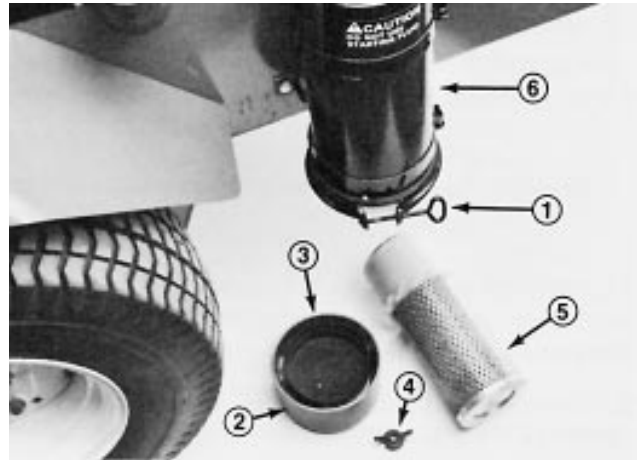

Figure 27
1. Loosen thumb screw until dust cup and baffle can be removed (Fig. 27). Separate dust cup and baffle (Fig. 27).
2. Remove wing nut w/gasket and slide filter element out of air cleaner body (Fig. 27).